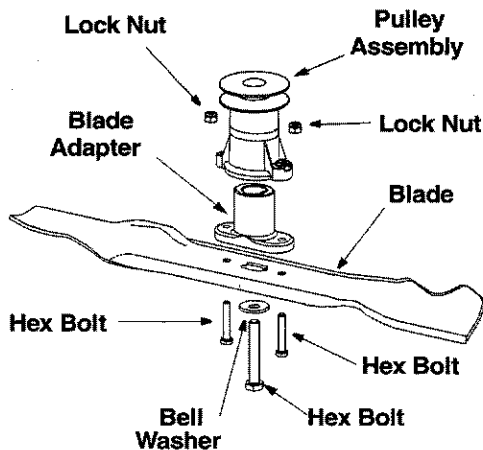

Figure 20
- Remove the bolt and the bell washer that hold the blade-pulley assembly to the engine crankshaft. See Figure 20. Remove the assembly from the crankshaft.
- Install the blade adapter on the pulley with the "star" away from the pulley. See Figure 20.
- Remove the belt from the engine pulley and around the blade. See Figure 20.